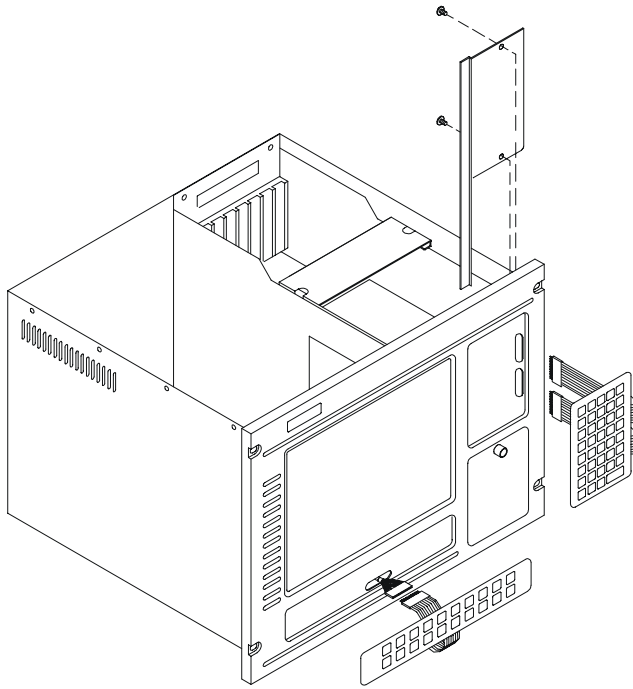

Figure 3.10: Replacing the membrane keypad
4. Remove the membrane keypad connector protective bracket, and carefully pull off the two membrane keypad cables. (See Fig. 3-10.)
2. Carefully pull off the membrane keypad cables connecting the keypad tail. (See Fig. 3-10.)